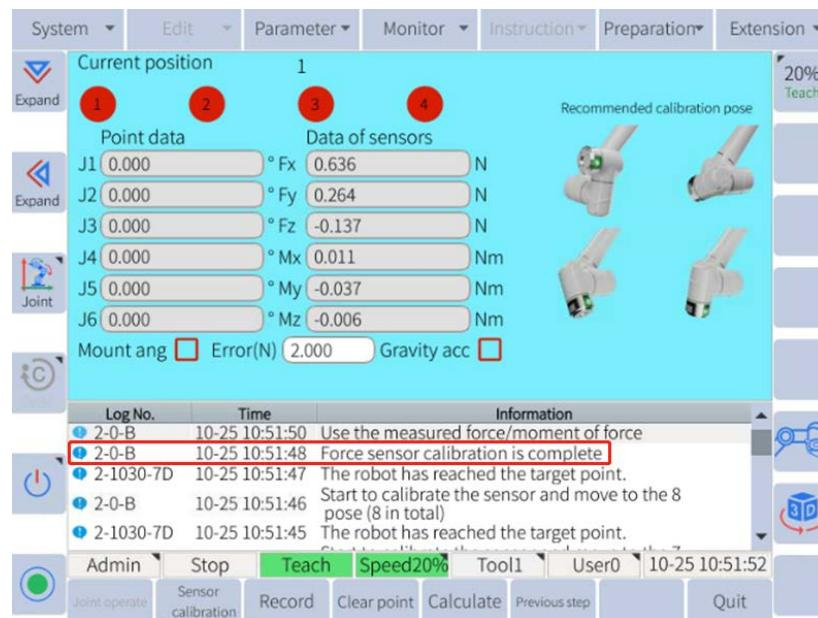

Figure 6-33 : Sensor calibration is complete
- d. When "Robot has reached the target point" appears in the display, please click **Sensor calibration** again until "Sensor calibration is complete" appears in the display, as shown in **Figure 6-33** (If the pose is influenced in the automatic operation, please release the servo and manually operate the 4th, 5th and 6th joint. After changing the robotic pose, you can hold the servo and click **Sensor calibration** again.).